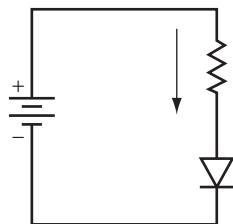

FIGURE 2.5
- 4 In the circuit shown in Figure 2.5, an arrow shows the direction of current flow.